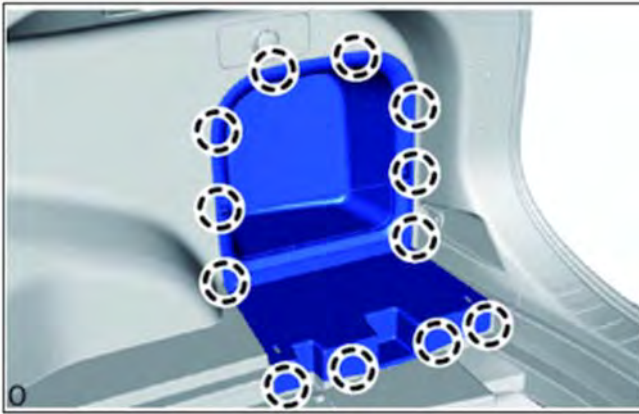

Figure 4
- (c) Detach the 12 claws and remove the battery hole cover. Figure 4.